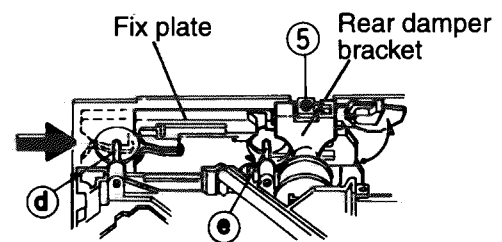
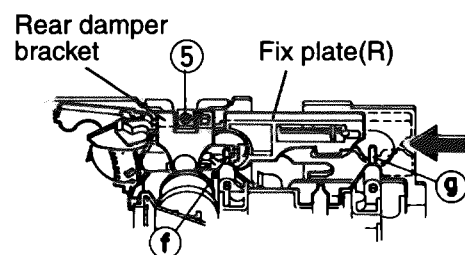

Fig. 17
Fig. 18
2. When shifting the fix places on the right and left sides respectively to the arrow direction, lower the entire CD mechanism. When the shafts (d, e, f and g) on both the right and left sides have been set free as shown in Fig. 17 and Fig. 18, then the assembly can be removed easily. Remove the two screws ⑤ retaining the rear damper bracket to make it easier to remove the damper from the rear damper bracket (See Fig. 10, Fig. 17 and Fig. 18).